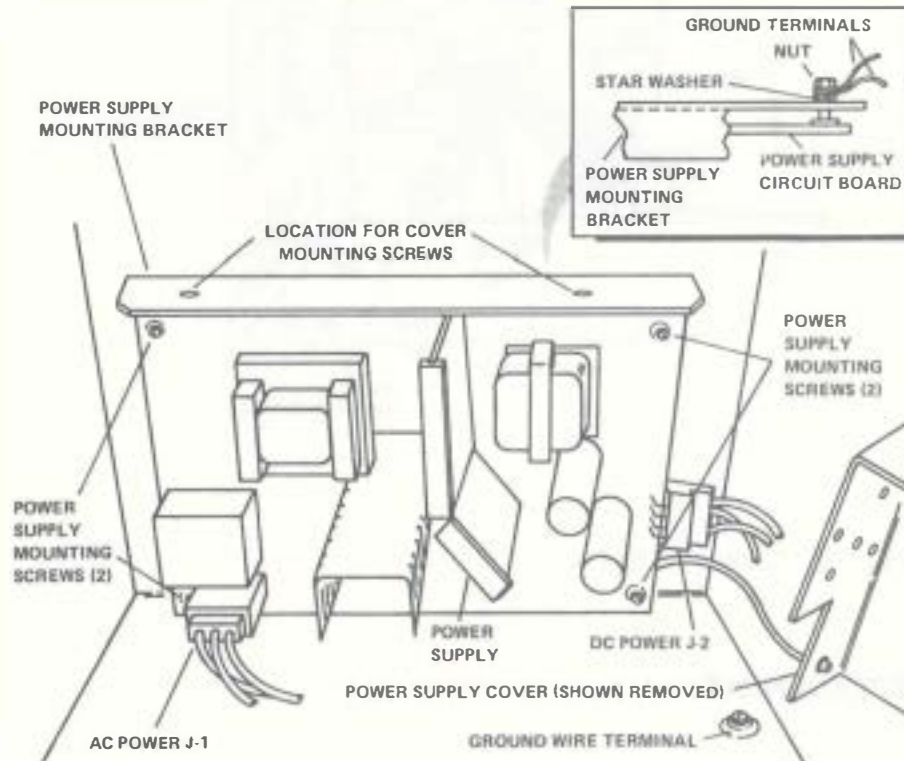

Figure 5-30. Power Supply - 8" Diskette (Viewing rear of diskette)
3. Disconnect power AC connector J1 and power DC connector J2. See Figure 5-30.
1. Position the circuit board over four mounting standoffs, position J1 AC power receptacle to the lower left and J2 DC power receptacle to the right as viewed from the front of the diskette assembly. Secure the circuit board to the mounting bracket with three screws. See Figure 5-30.
2. Install two ground ring terminals with star washer and nut to circuit board mounting screw at top right side and secure ground terminals. Make certain star washer is located at face of mounting bracket to ensure proper grounding. See Figure 5-30.
3. Reconnect J1 and J2 power connectors to the receptacles on the circuit board. See Figure 5-30.